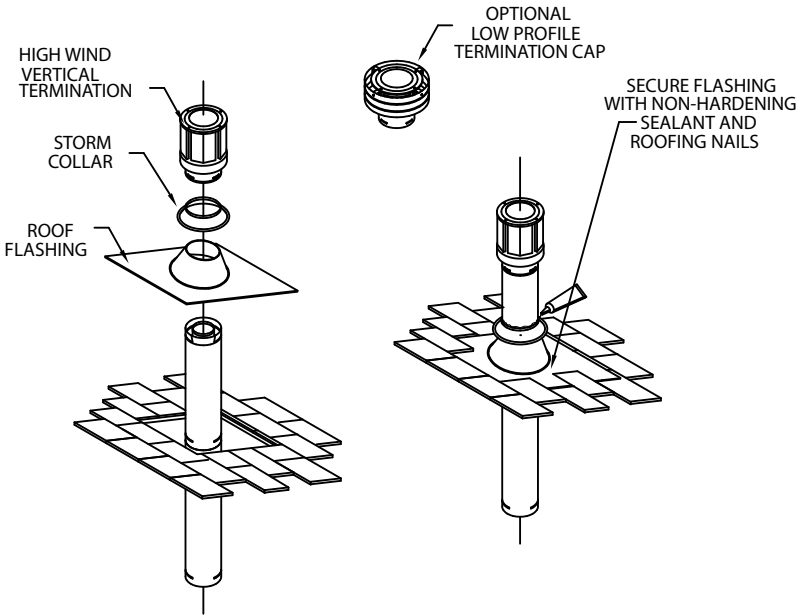

Figure 18
Secure the base of the Roof Flashing to the roof with roofing nails. Ensure the roofing material overlaps the top edge of the Roof Flashing (**Fig. 18**). Verify that you have at least the minimum clearance to combustibles at the roofline and in the attic.
Step 9. Slip the Storm Collar over the Pipe Section, and push it down to the top of the Roof Flashing (**Fig. 18**). Use non-hardening sealant between the Storm Collar and the Pipe Section.